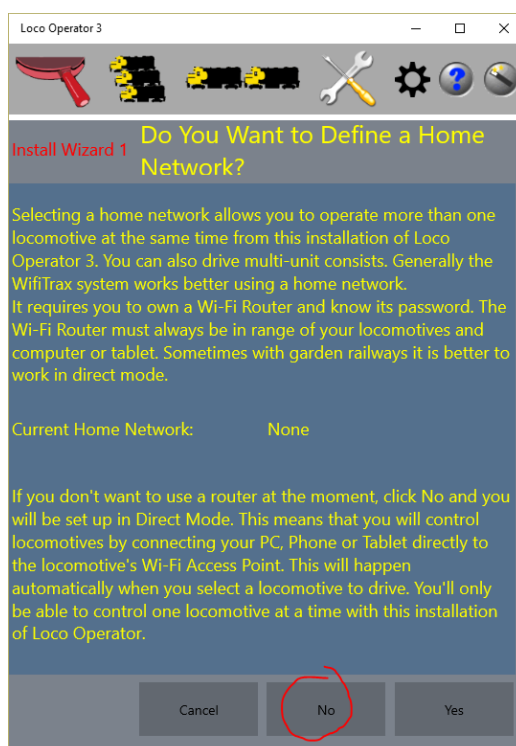

Figure 37 Install Wizard Page 1
- (1) Power up your WFD-31 module and NCE system with a locomotive on the track with a known DCC address.
- (2) Start the Loco Operator App on your computer, tablet or phone. If you are starting the app for the first time the Install Wizard will automatically run and you will see a screen called Install Wizard 1 as in Figure 37. This screen asks whether you want to define a Home Network. Click No to this option for now. You can come back to this screen later.